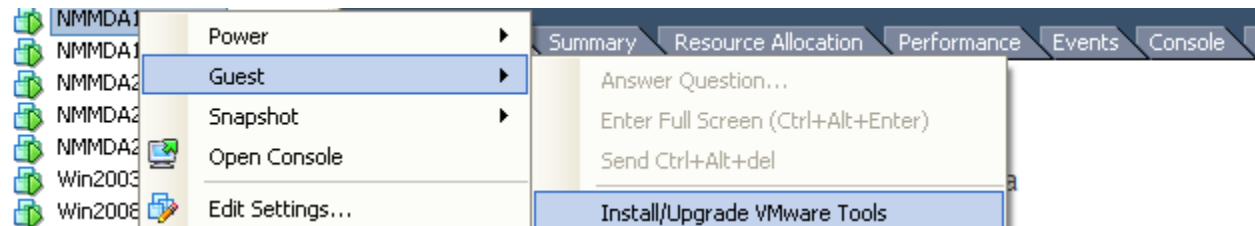

Figure 10 – ESX Management - II
- a. Assign VMware tools as CD driver to virtual machine, Figure 10.